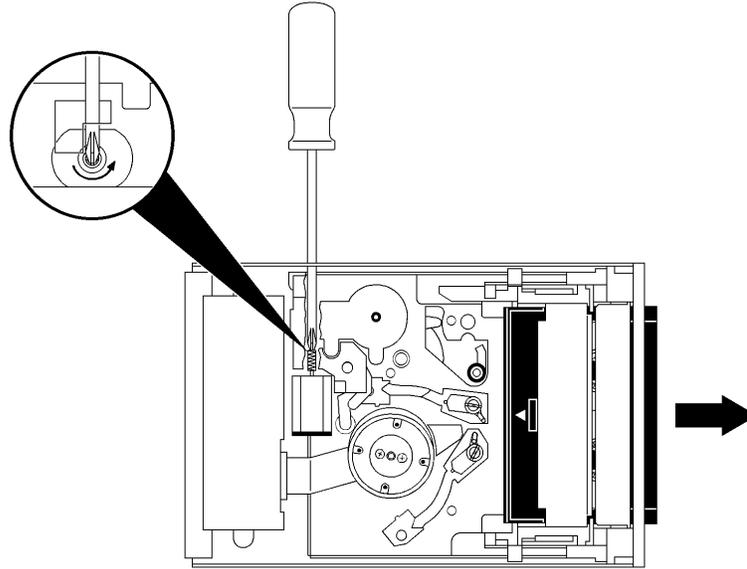

Figure 18. Turning the Motor Worm Wheel to Release the Cartridge
5. Insert a 1.5 mm hexagonal key or a small Phillips screwdriver into the aperture on the right side of the drive looking from rear. This gives you access to the motor worm wheel, as shown in Figure 18. Turn the hexagonal key or small screwdriver counter-clockwise to release the cartridge.